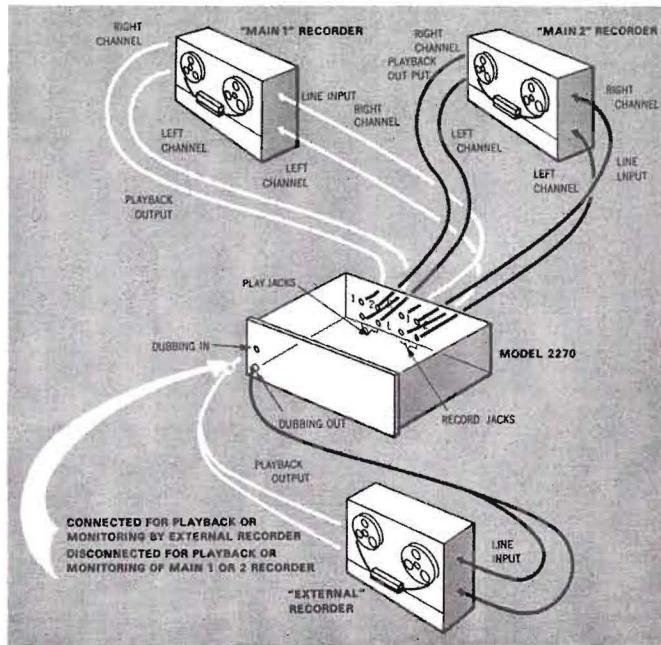

Figure 7. General Arrangement of Tape Recorder
There are several ways to connect and operate tape recorders with your receiver. To avoid confusion in the following discussion, reference to "tape monitoring" assumes that the recorder is equipped with separate record and playback heads and separate record and playback preamplifiers. To further simplify this discussion, a tape recorder normally connected to the rear panel **PLAY 1** jacks will be referred to as the "main 1" recorders. A separate recorder normally connected to the front panel jacks will be referred to as the "external" recorder. This general arrangement is illustrated in Figure 7.
1. Connect two tape recorders to the **RECORD 1** and **2** jacks as shown in Fig. 7. To monitor the "main 1" recorder, depress both the MONITOR (TAPE/SOURCE and 1/2) pushswitches and to monitor the "main 2" recorder, release the MONITOR (1/2) pushswitch only.
With two tape recorders connected to the Model 2270 as shown in Figure 7, a continuous recording can be made without losing parts of the program during reel changes. For example, with
the selector switch set to the desired program source, and the MONITOR (TAPE/SOURCE) pushswitch in the "out" position, start the recording on the main 1 recorder, then prepare the main 2 recorder to begin recording before the main 1 recorder is about to run out of tape. As soon as the main 2 recorder is started, ample time will be available to reload the main 1 recorder in preparation for further recording. This process can be repeated indefinitely with both machines. At any time during the recording session, the recording can be monitored by depressing or releasing the MONITOR (1/2) pushswitch with MONITOR (TAPE/SOURCE) pushswitch depressed. Using the input/output and control facilities of the Model 2270, and two tape recorders, you can copy and edit tapes from one machine to the other. The general arrangement of equipment for copying and editing is illustrated in Figure 7.